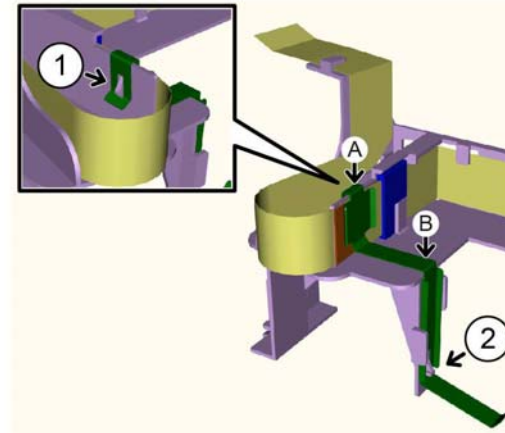

Figure 11 Cable replacement
2. Connect the FFC cable as shown in Figure 11.
- a. Push section A of the spring and hook it to the tab (1) of the guide.
- b. Push section B of the spring and hook it to the tab (2) of the guide.